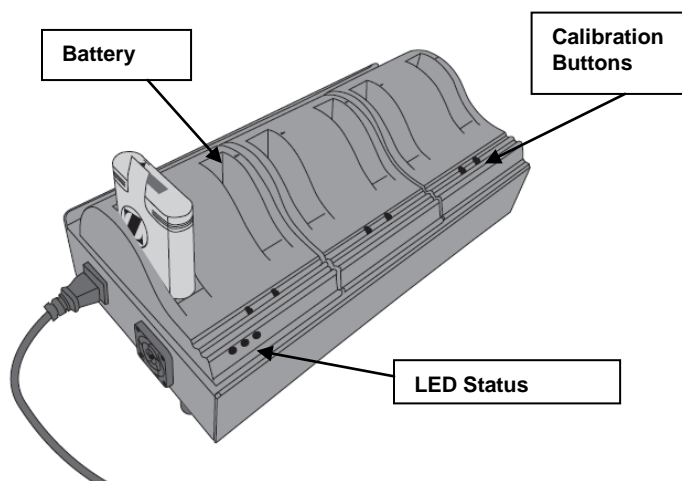

Figure 2: Battery Charger
3. Place the Battery in the Charger bay located on the Battery Charger (see Figure 2).
NOTES: The Battery status is determined by the LEDs in the Charger status window. (Figure 2)
2. Press the recalibration button on the front of the Charger (see Figure 2) to begin recalibration of the Battery. If the button is not pressed the Charger will automatically charge the Battery.